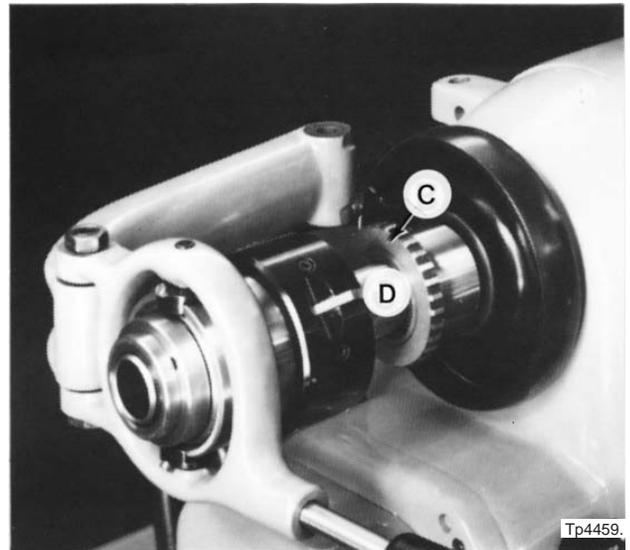

Figure 4.3 - Collet Closer Removal
3. Remove the collet closer as shown in Figure 4.3 .
DO NOT force adjusting nut “C”, Figure 4.3, onto the spindle. If the adjusting nut goes on tight, remove it and examine the headstock spindle for scratches or burrs.
2. Replace adjusting nut “C”, Figure 4.3, on the end of the spindle.